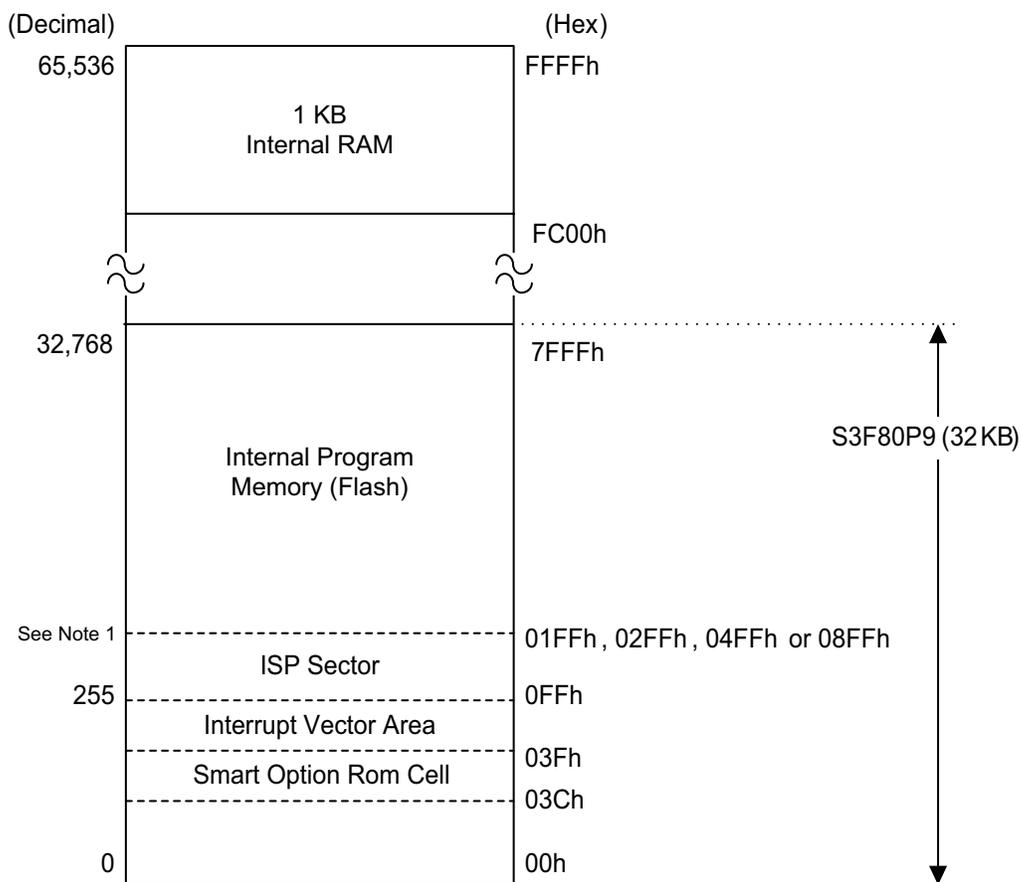

Figure 13. Program Memory Address Space
executable RAM. The program memory address range is therefore 0000h–FFFFh of Flash memory, as shown in Figure 13.
- In Figure 13, the size of the ISP sector can be varied by the Smart Option. According to the Smart Option settings, the ISP reset vector address can be changed to one of the following addresses: 200h, 300h, 500h, or 900h.